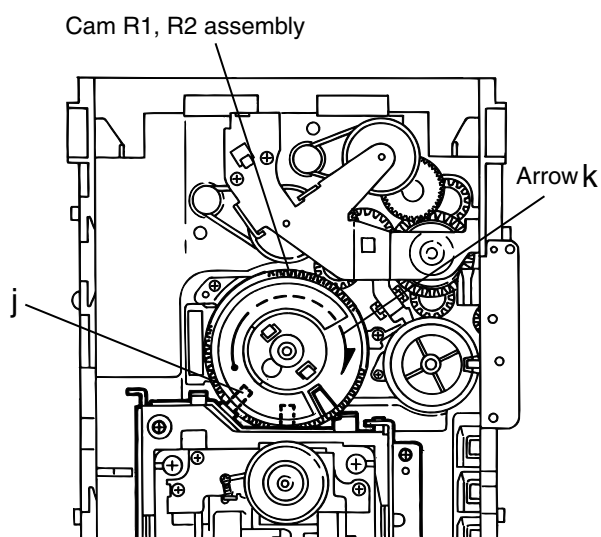

Fig.11
■ Removing the DVD mechanism (See Fig.11 and 12)
1. For dismounting only the DVD mechanism without removing the DVD mechanism assembly, align the shaft j of the DVD mechanism assembly to the position shown Fig.11 while turning the cam R1 and R2 assembly in the arrow direction k.